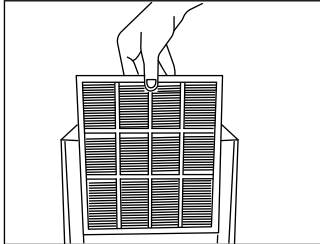

Fig. 4
2. Catch the filtration mesh handle and pull upwards. (Fig. 4)